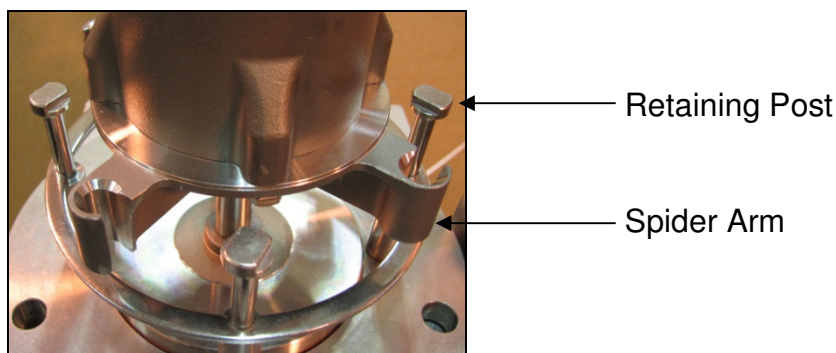

Figure 3
- 3.3 Line up the Main Seat from with the seat from the valve being sure the shaft is centered. Be sure the Spider arms are NOT in line with the Retaining Posts on the valve. (See Figure 3)
- 5.2 Rotate Spring Housing Assembly clockwise until Spider Arms are NOT lined up with Retainer Posts (See Figure 3) and slowly release the spring force.